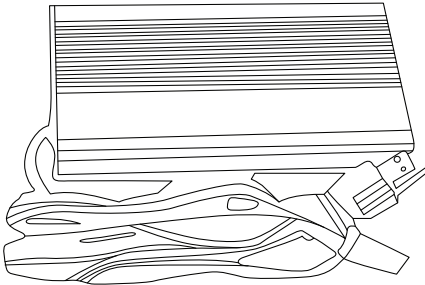

Fig. 8
3. The indicator light should turn Red and blink while charging and turn Green when fully charged (**Fig. 8**). The battery pack may require approximately 2.5 hours to fully charge.